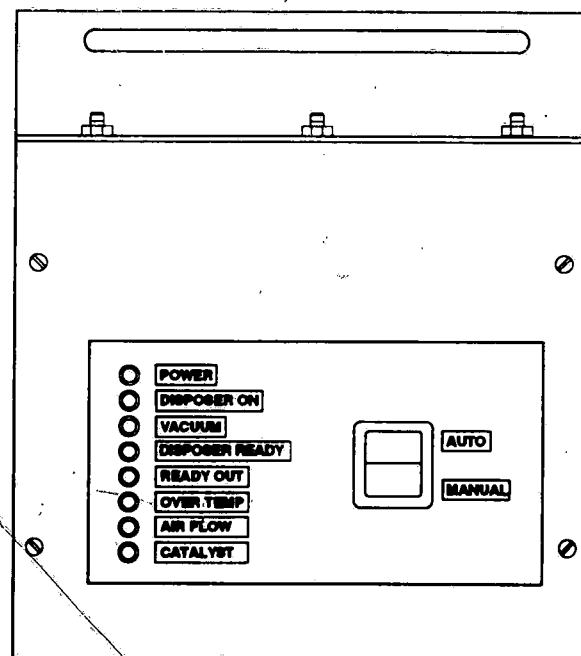

Figure 2-1. Interface Box — Eagle 3000 and 2000 Series Sterilizers
The disposer system consists of an AMSCO EO Disposer, one or more AMSCO sterilizers or Aerators, an interface box for each sterilizer and a sequencer assembly for installations with multiple sterilizers. Refer to Figure 2-1 for a block diagram of the disposer system.
The AMSCO EO Disposer is completely automatic. The power disconnect switch on the Disposer cabinet door (Figure 2-1) should be left ON at all times except when a qualified technician is servicing the unit. No operator actions are necessary to activate or operate the Disposer. The operator need only initiate the sterilization or aeration procedures in the normal manner. Refer to the Troubleshooting section for more information on causes of alarms.
1. Interface Box — The sterilizer communicates with the disposer through the interface box. This box is mounted on the sterilizer framework. Eight interface signal lights are located on the Interface Box (see Figure 2-1). The lights signify:
- Interface Box** — The sterilizer communicates with the disposer through the interface box. This box is mounted on the sterilizer framework. Eight interface signal lights are located on the Interface Box (see Figure 2-1). The lights signify: